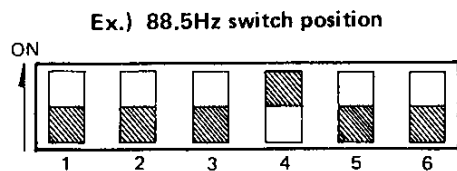

Fig. 1 DIP Switch
1. A six position DIP switch (Fig. 1) has been provided to allow selection of the desired tone frequency, 40 different frequencies are available (See Table 1.). Use the DIP switch and Table 1 to select the desired tone frequency.